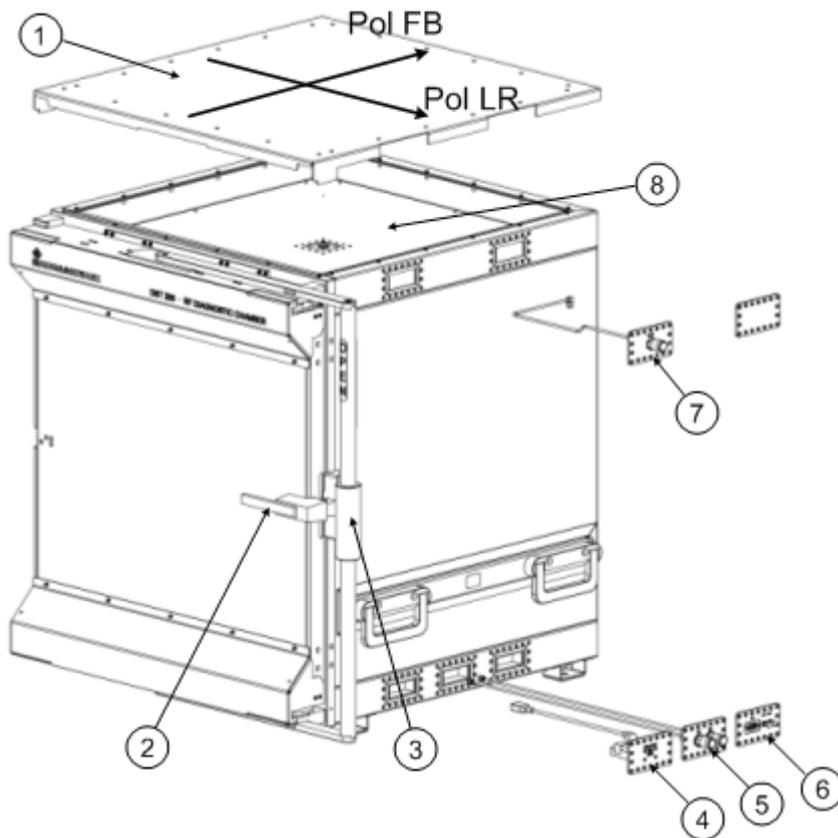

Figure 3-1: RF Diagnostic Chamber with accessories
The panels are mounted at the positions shown in figure Figure 3-1. For more information see Chapter 3.2.5, "Mounting Filter and Interface Panels", on page 18.
2. Turn the locking handle to the OPEN position as shown in Figure 3-1.